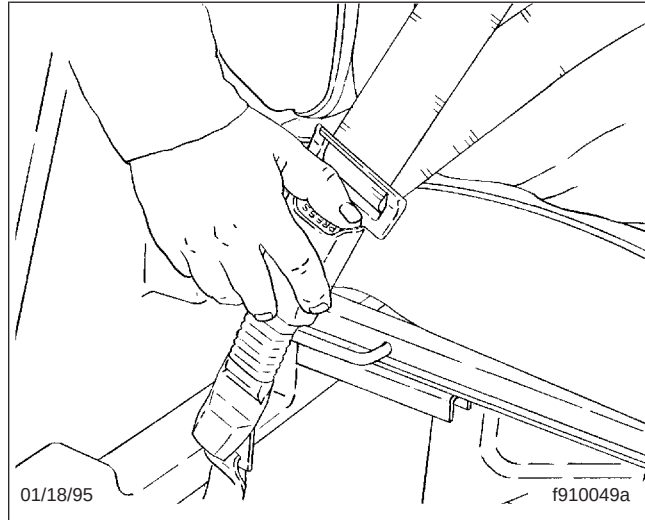

Fig. 5.11, Releasing the Three-Point Seat Belt
4. To unbuckle the three-point seat belt, push the button on the buckle as shown in Fig. 5.11. If the Komfort Latch was used, release it by giving the shoulder belt a quick tug. If you lean forward
6. To unbuckle the three-point seat belt, press the release button on the buckle; see Fig. 5.11.